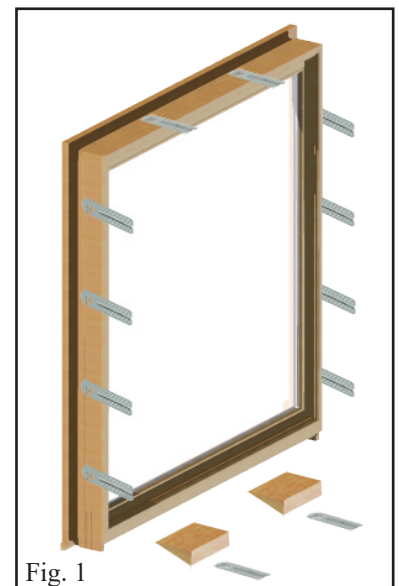

Fig. 1
- Operating double hung units are often tested and rated without clips along the sill. Large fixed units with Double Hung sloping sills usually require gluing wood wedges to the underside of sill and attaching clips with longer frame screws. See Fig. 1.
2. Attach the clips to window/door frame with #8 x 3/4" or longer FH SMS screws as shown in Fig. 1, page 1. The clips can be parallel or perpendicular to window plane. **Be sure the clips are at least 1/8" away from the back of the nail fins to allow for the bead of sealant required by installation instruction for the unit. There are inch marks along clip edges to aid locating the clips and on most products there is a locator groove to help properly locate the clips.**